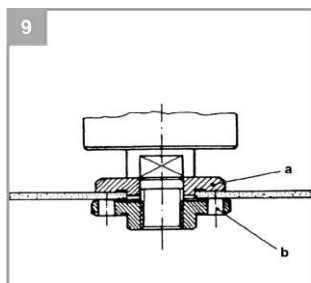

Fig.9
- Flange arrangement when using a straight cutting wheel (Fig. 9)